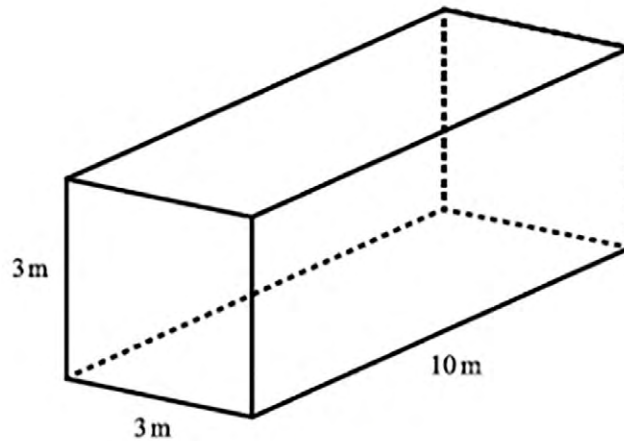

Fig. 7
- 6 A thermally insulated rigid box shown in Fig. 7 contains air at 12°C and pressure $P_1=100\text{ kPa}$. The internal dimensions of the box are 3 m by 3 m by 10 m. Heat is supplied to the interior of the box at 1500 W.